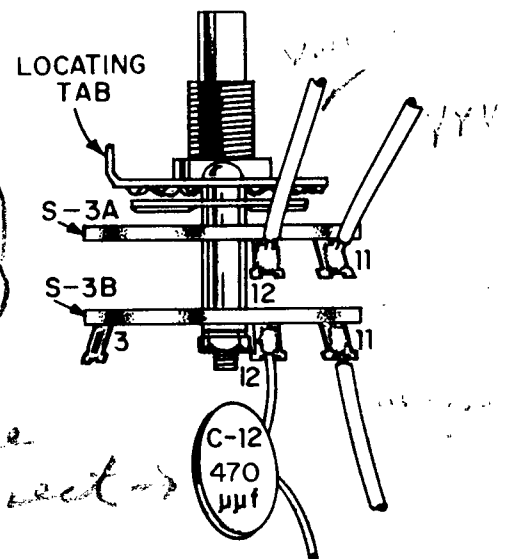

FIGURE 10. PREWIRING S-3
SEE FIGURE 10.
- ☒ S-3, 2-wafer switch. Position the switch with the terminals and locating tab as shown in Figure 10.